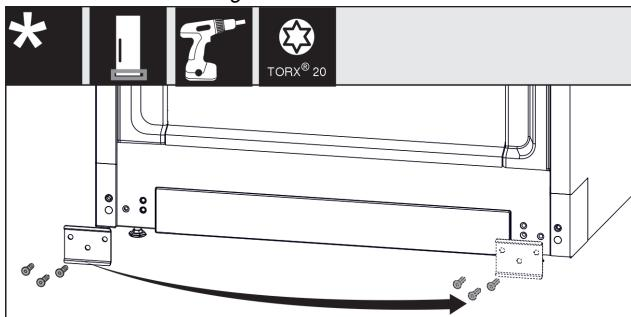

Fig. 17
- Screw off the faceplate *Fig. 17 (1)*, move it to the other side and screw it back on.
- Attach the swap bearing block onto the other side and screw it on using a screwdriver. Start with the screw (2) at the bottom center.
- Tighten screw (3) and screw (4).
- Insert the bearing pin (5) completely. In the process, make sure that the latching cam shows towards the rear.